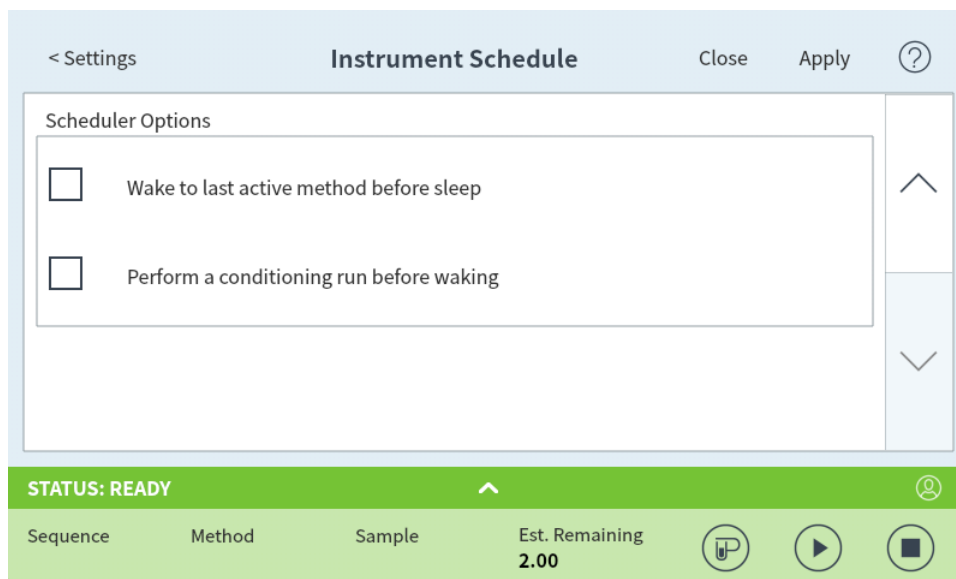

Figure 73. Scheduler Options area
3. Scroll to the **Scheduler Options** area. See Figure 73.